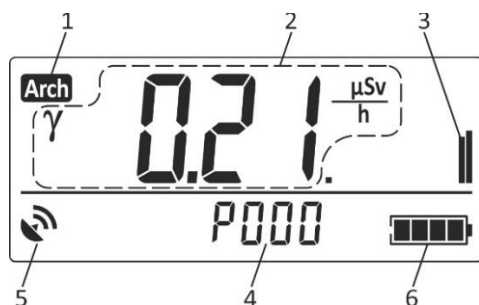

Figure 2.37 – LCD of the dosimeter
2.3.6.10.2.2 In this mode the LCD of the dosimeter displays the following (Figure 2.37):
- **Arch** symbol (1) – indication of the mode of measurement results viewing saved in the nonvolatile memory;
- measurement result (2);
- indicator of measurement result location in the nonvolatile memory (3);
- measurement object number (4);
-  symbol - indication of the availability of geographical coordinates of the measurement object in the memory (5);
- battery status symbol (6).